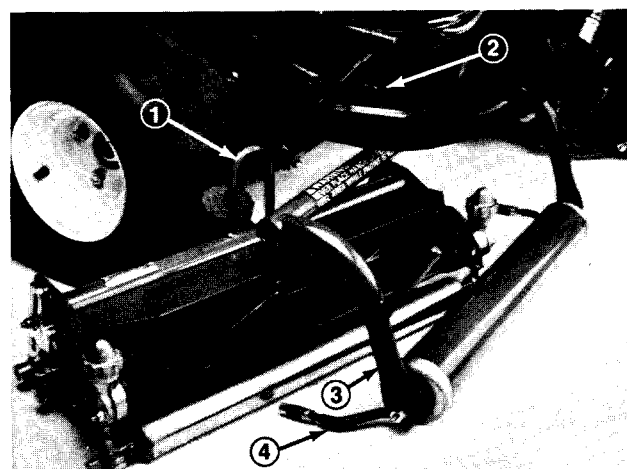

Figure 26
4. Slide cutting unit out from under pull frame, disengaging the lift arm from the lift bail (Fig. 26).